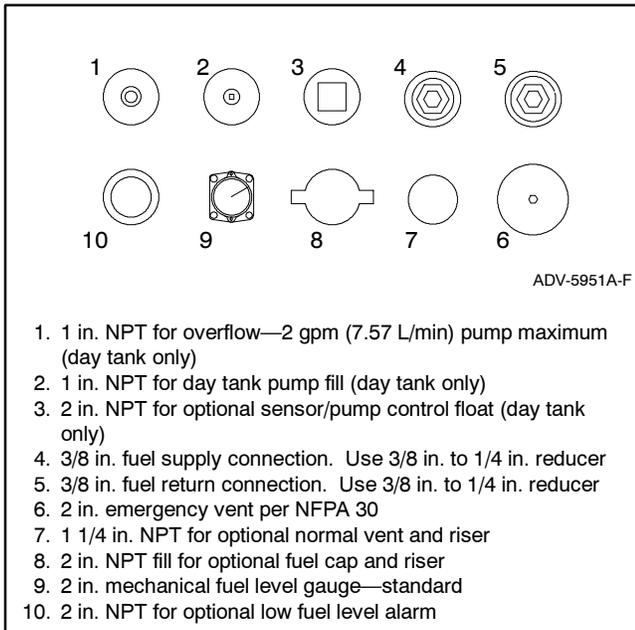

Figure 5 Fuel Tank Fittings, Tanks with Day Tank Option
- c. Remove the pipe plug for the fuel inlet connection at the subbase fuel tank. See Figure 5. The pipe plug is not reused. Apply pipe sealant to the male ends of 3/8 in. elbow hose connector (X-391-13), and install. Point the elbow hose connector toward the transfer pump assembly when final tightened.
- f. Remove the pipe plug for float switch (224869) installation. See Figure 5. The pipe plug is not reused. Apply pipe sealant to the threads of the float switch and install in the subbase fuel tank.
- l. Remove the pipe plug for the tank over fill return line. See Figure 5. Install 1 in. NPT 90 degree elbow fitting (not provided) and fuel overflow line (not provided) back to primary tank.
- f. Remove the pipe plug for float sensor (224814) installation. See Figure 5. The pipe plug is not reused. Apply pipe sealant to threads of float sensor and install in the subbase fuel tank.
- l. Remove the pipe plug for tank over fill return line. Install a 3/4 in. NPT 90 degree elbow fitting (not provided) and fuel overflow return line (not provided) back to the primary tank. See Figure 5.